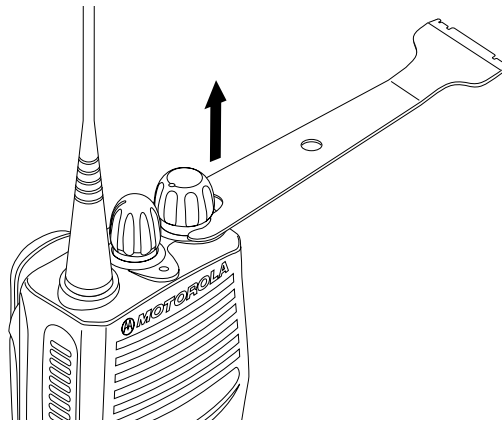

Figure 2-2 Knob Removal
4. Pry off the volume and channel selector knobs from their shafts using the knob remover/chassis opener tool (Motorola part No.6686533Z01) (Figure 2.2).